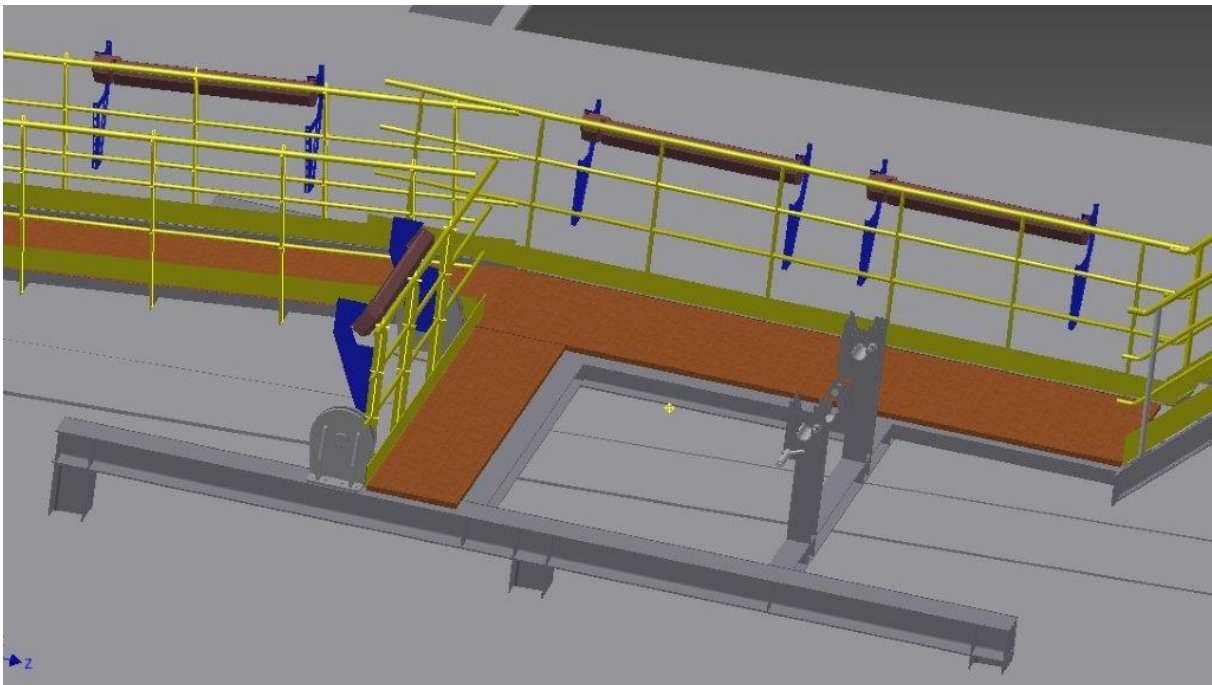

Figure 1.2.2 Gooseneck Hook-up frame
- Gooseneck Hook-up Frame, with after installing of two 5 Ton Guide sheaves (Figure 1.2.2)